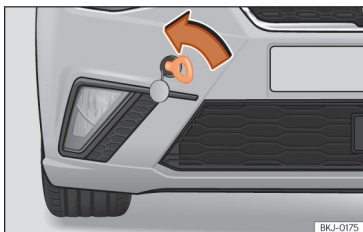

Fig. 156 Right side of the front bumper: towline anchorage screwed in.
- Screw the towing eye in the housing by turning it to the maximum **anticlockwise** >>> Fig. 156 , >>> ⓪. Use a suitable object that can completely and securely tighten the towing eye in its housing.